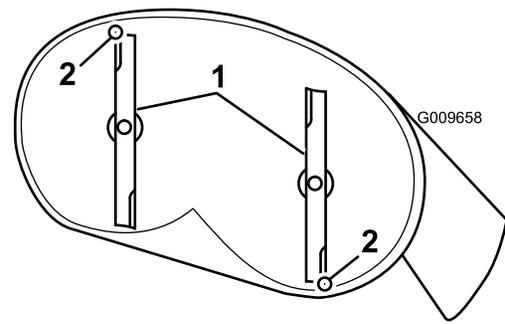

Figure 51
- Carefully rotate the blades so they are facing front to rear (Figure 51).
- Measure from the tip of the front blade to the flat surface and the tip of the rear blade to the flat surface (Figure 51). If the front blade tip is not 1/16-5/16 inch (1.6-7.9 mm) lower than the rear blade tip, adjust the front locknut.
- After adjustment, check the front-to-rear slope again. Continue adjusting the nut until the front blade tip is 1/16-5/16 inch (1.6-7.9 mm) lower than the rear blade tip (Figure 51).